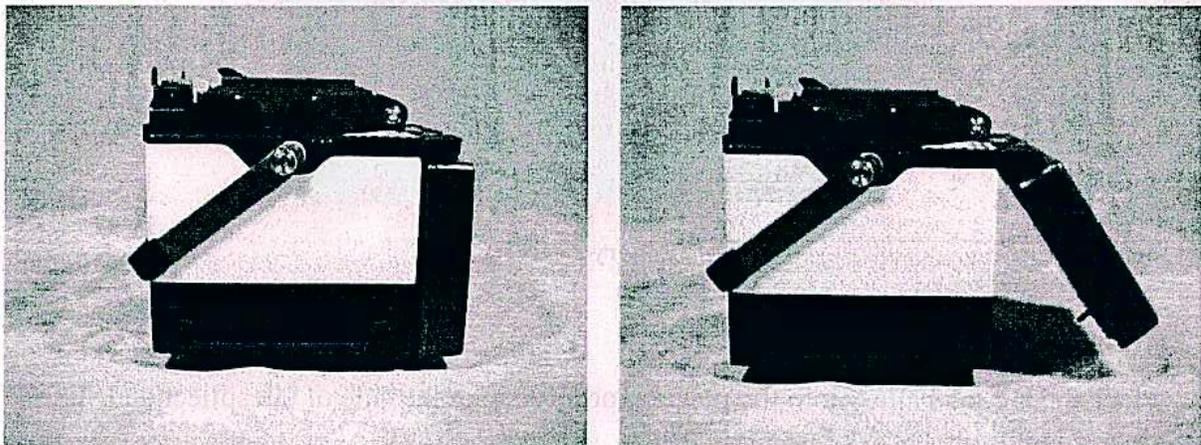

Figure 5. Positioning LCD Monitor
3.2.2 Raising the monitor as shown in Figure 5 allows you to alternate between operation and storage positions.